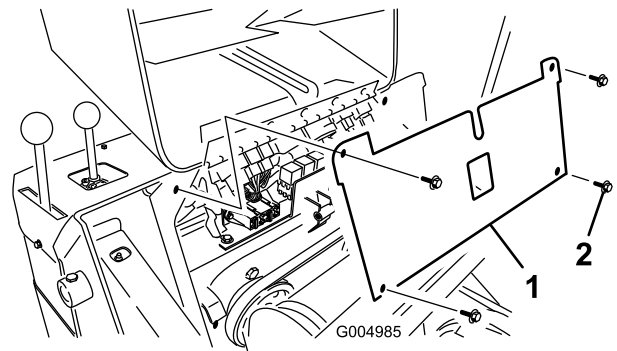

Figure 42
5. Remove the 4 screws securing the fuse panel and then pull the panel out and up to remove it (Figure 42).